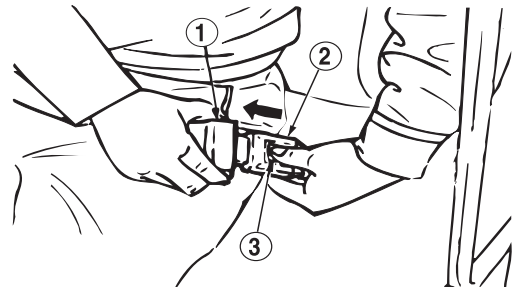

Fig 88
Press button (3, Fig 88) in center of buckle (2) and pull out belt (1) to unlock.